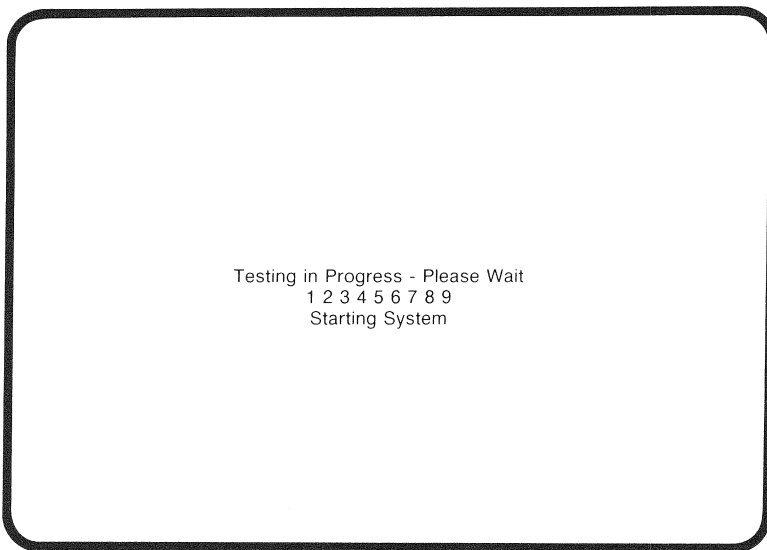

Figure 1-6 KDJ11-BC Startup Message
- The KDJ11-B CPUs display a “Testing in Progress” message (Figure 1-6).